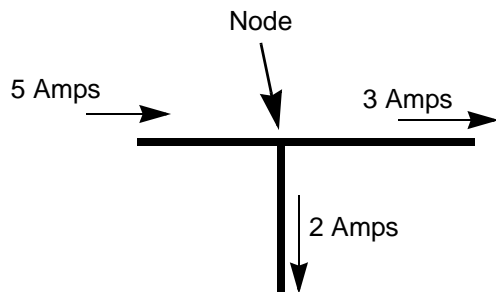

Figure 7.36
- The sum of the currents coming out of the other two wires must equal 5 amps. That could be 3 amps in one wire and 2 amps in the other or it could be 2.5 amps in each wire, but the total coming out must be the same as the current going in. See Figure 7.36.